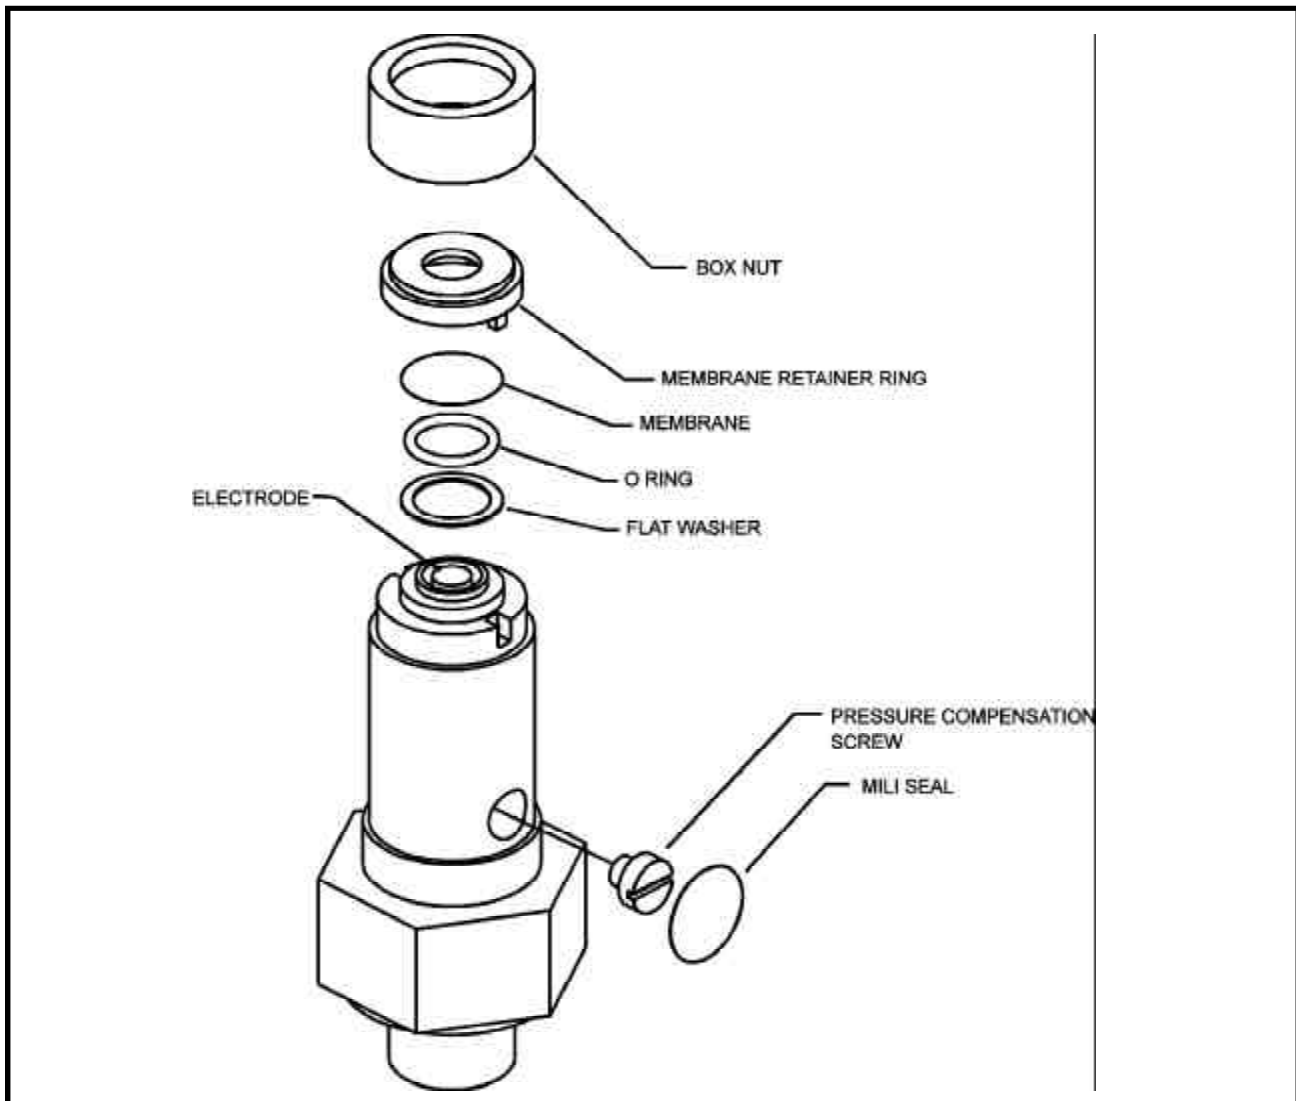

Figure 6.3
3. Electrolyte Replacement (See Fig. 6.3)